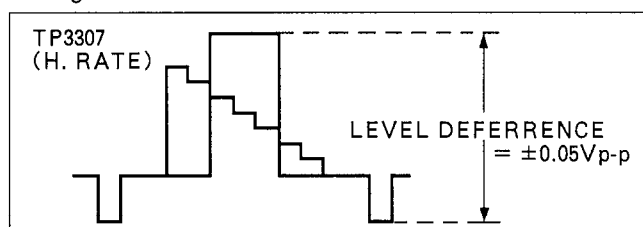

Figure E12
2. Adjust VR3202 so that the playback Y level becomes the same ( $\pm$  0.05Vp-p) as the stop (EE) Y level as shown in Figure E12.